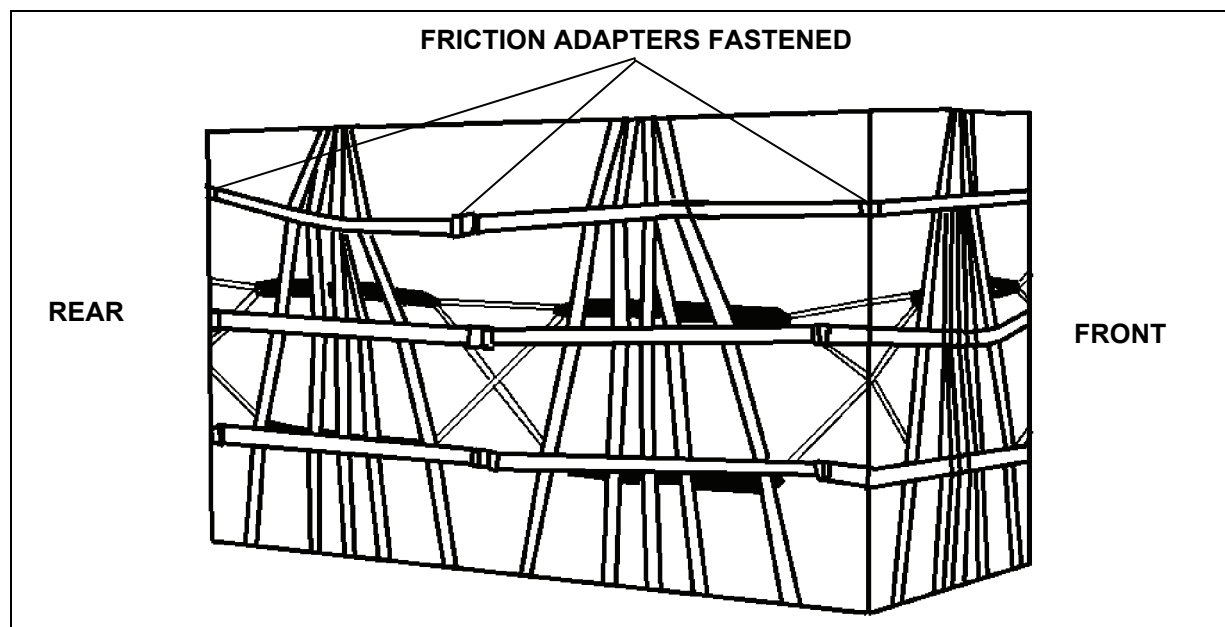

Figure 8-15. Sling Assemblies Fastened
- Lay the remaining portions of the sling assemblies over the load. Route the lateral straps through the friction adapters. Tighten the center friction adapters and Type VIII nylon webbing so the middle suspension web on each container is vertical. Install a knot in the running ends of the Type VIII nylon webbing about 3 inches from the friction adapters. Apply equal tension on the remaining lateral straps. Fold and secure the excess webbing with 1/4-inch, Type I cotton webbing (Figure 8-15).